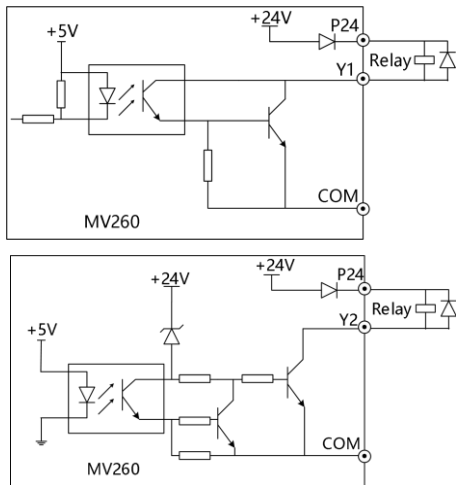

Fig.3-17 Wiring mode 1 of Multi-functional output terminal
(1) When the Multi-functional output terminals Y1 and Y2 use the internal 24V power supply of the drive, the wiring mode is as shown in Fig.3-17.